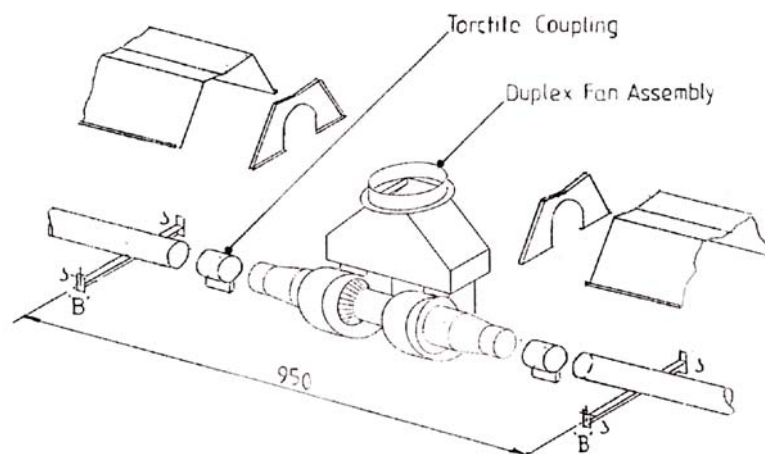

Fig. 12
4.2.9 Place one Torctite Coupling over the open end of each Radiant Tube, ensuring that they engage fully (up to the stop). Assemble the Duplex Fan Assembly to the Radiant Tubes, ensuring that it engages fully into each Torctite Coupling (up to the stops) and has the exhaust outlet positioned to suit the flue requirement, ie. either vertical or horizontal to either side. Tighten the screws of the Torctite Coupling to secure the Duplex Fan Assembly to the two Radiant Tubes, taking care to support the Duplex Fan Assembly in line with the axis of the tubes. (see Fig. 12)